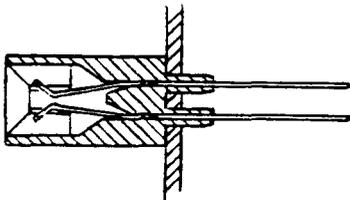

FIGURE 3
2.324 Fig. 3 shows an M13 connector housing cross section depicting a pair of standard terminal pins. Here, a plug-in unit makes electrical contact on both sides of its printed circuit board simultaneously as it is inserted into the connector.